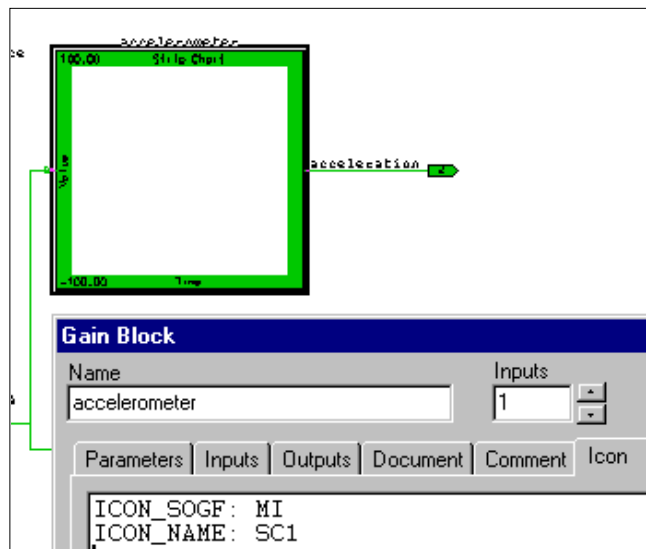

FIGURE 16-2 Strip Chart Icon Attached to a Primitive Block
3. Click **OK** to release the dialog. If the strip chart does not appear immediately, place the mouse cursor on the Gain block and press the **s** key a few times until the strip chart is seen. See Figure 16-2 for a view of this icon and the dialog box with the .sog file and icon name.